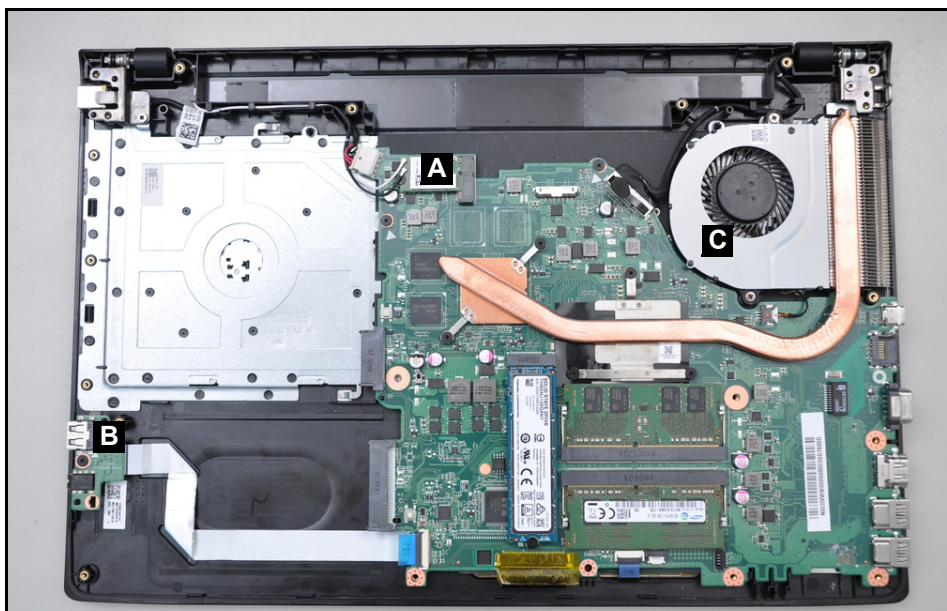

Figure 3-25. Component Locations
1. Find the WLAN module (A) on the top assembly (Figure 3-25).
1. Find the I/O board (B) on the top assembly (Figure 3-25).
1. Find the fan (C) on the top assembly (refer to Figure 3-25).